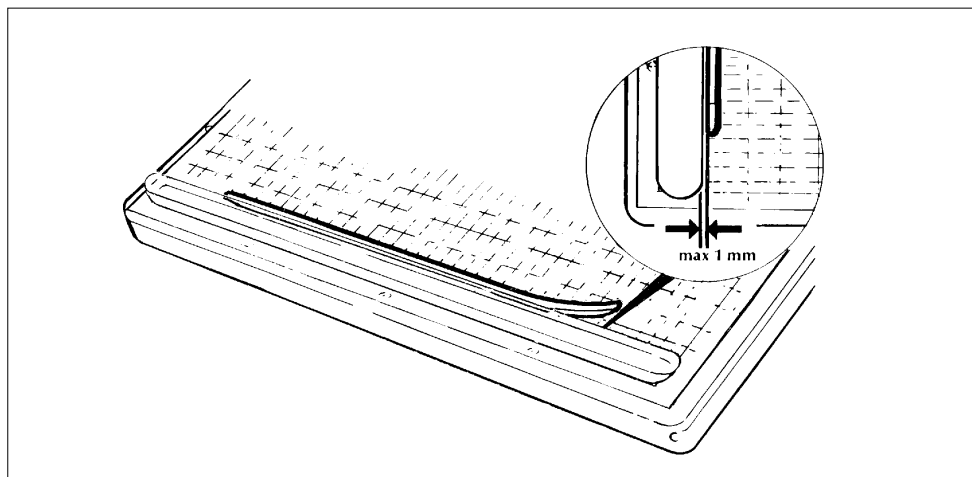

Fig. 28.
- Once the strips (from above) have drained for at least 3 minutes, place the strips, gel side down, on the ExcelGel as indicated in Figure 28. If you wish to run SDS Markers in the Second Dimension apply an extra application piece for them.